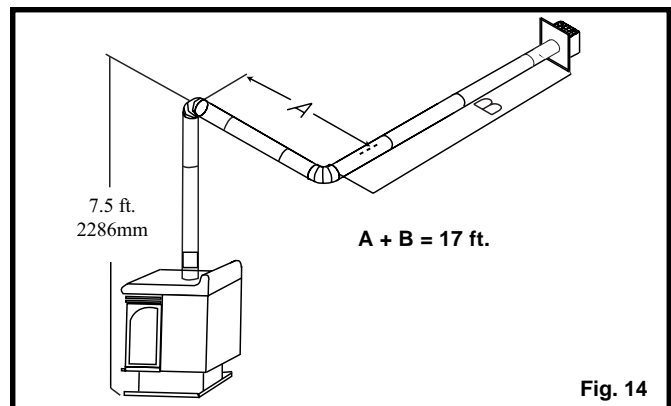
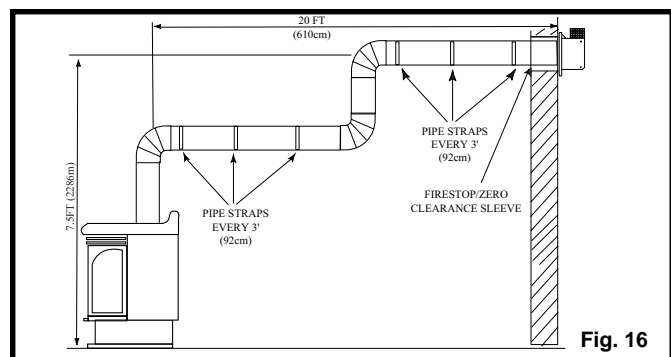

Fig. 14
Fig. 16
- If a 90° elbow is used in the horizontal vent run (level height maintained) the maximum horizontal vent length is reduced by 36 inches, (Fig. 14). This does not apply if the 90° elbows are used to increase or redirect a vertical rise (Fig. 16).
In Fig. 14, Dimension A plus B must not be greater than 17' (5.2m).
COMBUSTIBLE WALLS: Cut a 9-3/8" H x 9-3/8" W (240 mm x 240 mm) hole through the exterior wall and frame as shown Fig. 14.